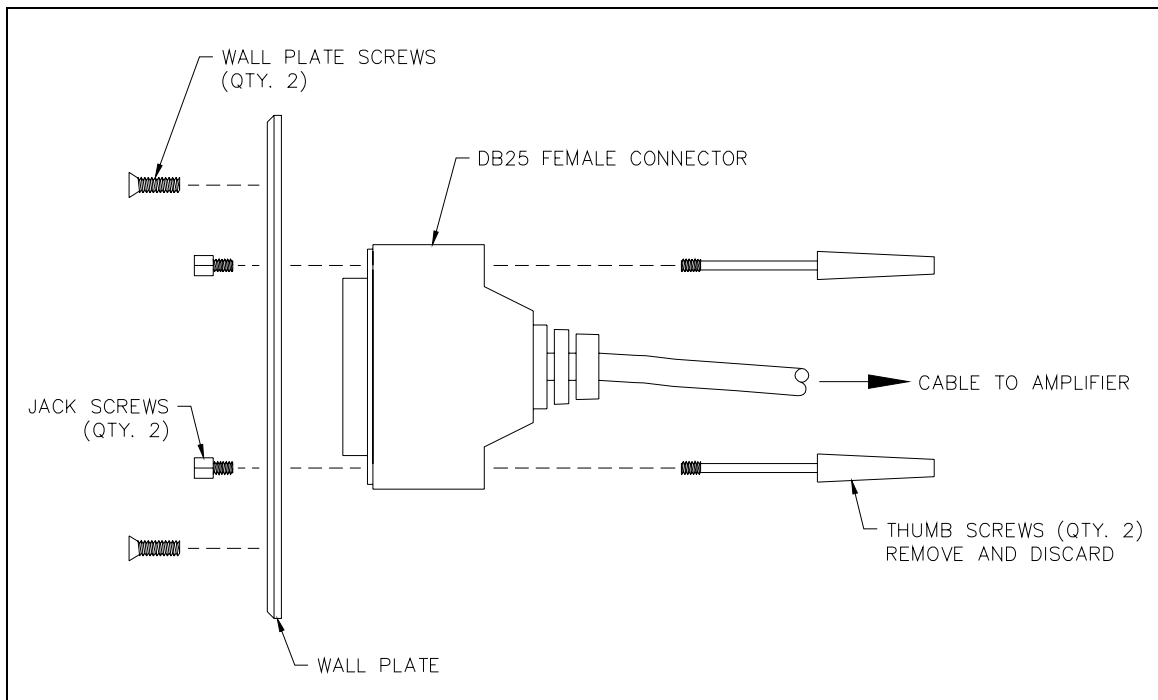

Figure 1. Installation as a Wall Receptacle
1. Arrange the cable so that the DB25 male connector is located at the amplifier enclosure and the cable's DB25 female connector is located at the wall receptacle. Remove the thumb screws from the female DB25 connector. See Figure 1.